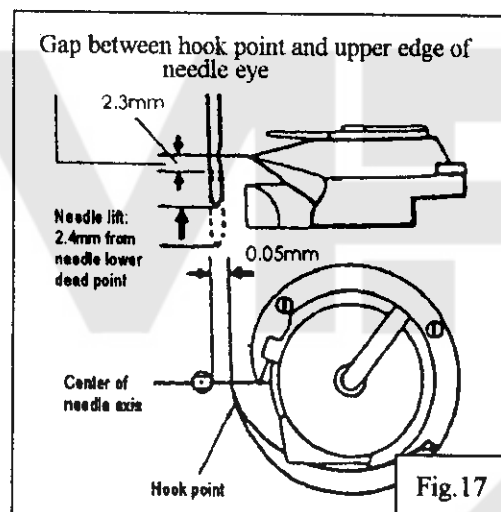

Fig.17
12. Timing between rotating hook motion and needle motion (Fig.17):